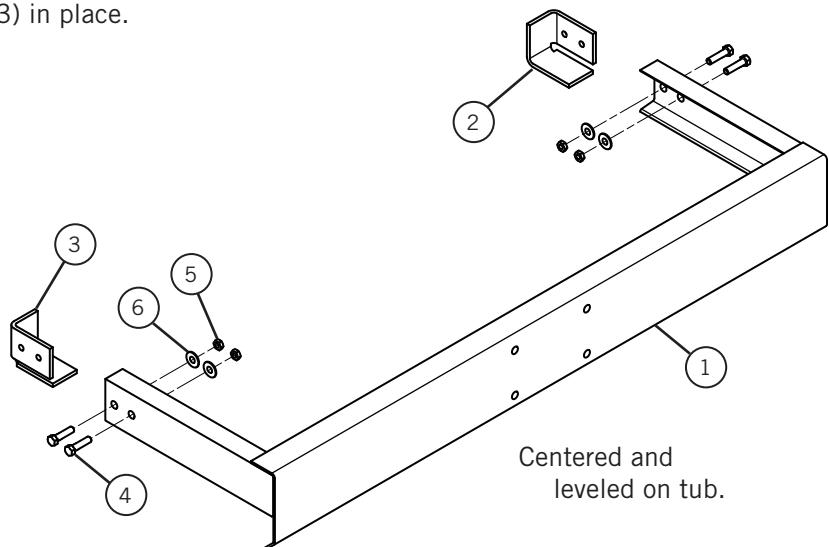

Figure 4
- 1) **See Figure 4.** Assemble the swing-arm mounting bracket (1) with a pair of mounting bracket (2 & 3) with provided fasteners. The mounting brackets (2 & 3) fit inside the swing-arm mounting bracket (1), with the mounting bracket (2 & 3) protruding from the swing-arm mounting bracket (1).
- 3) Disassemble the swing-arm mounting bracket (1) and weld the mounting bracket (2 & 3) in place.
- 4) **See Figure 4.** Assemble the swing-arm mounting bracket to the welded mounting brackets using provided fasteners.